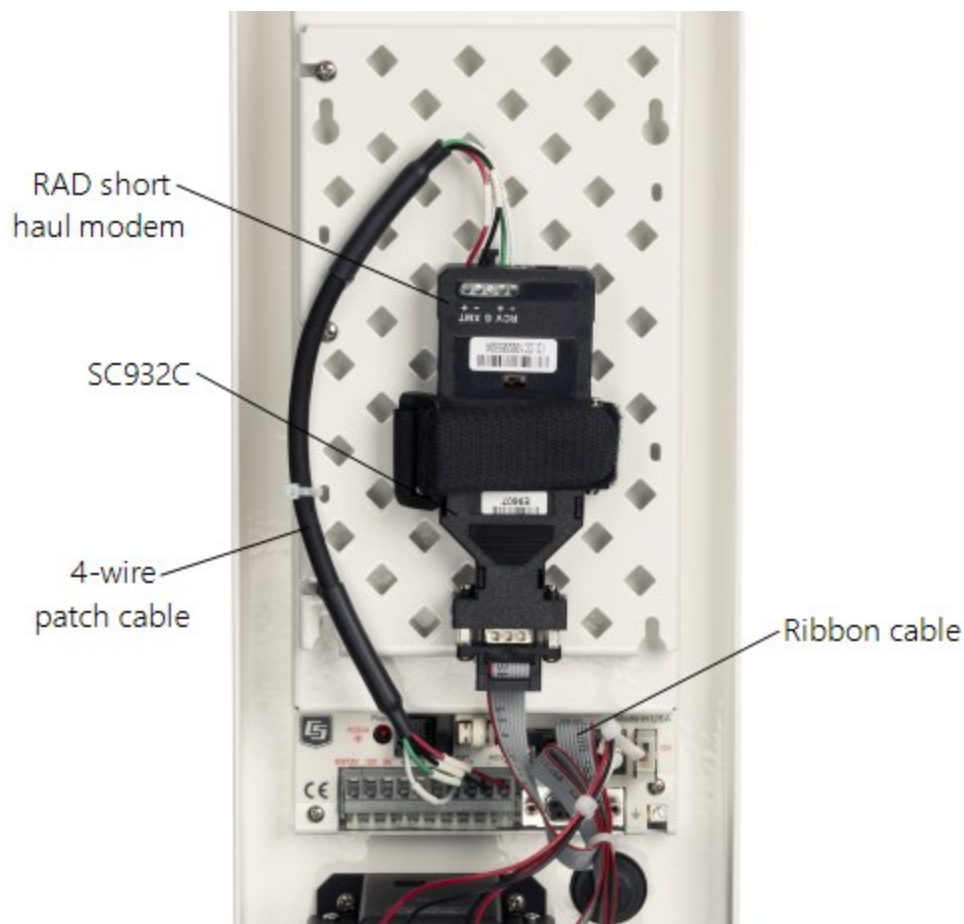
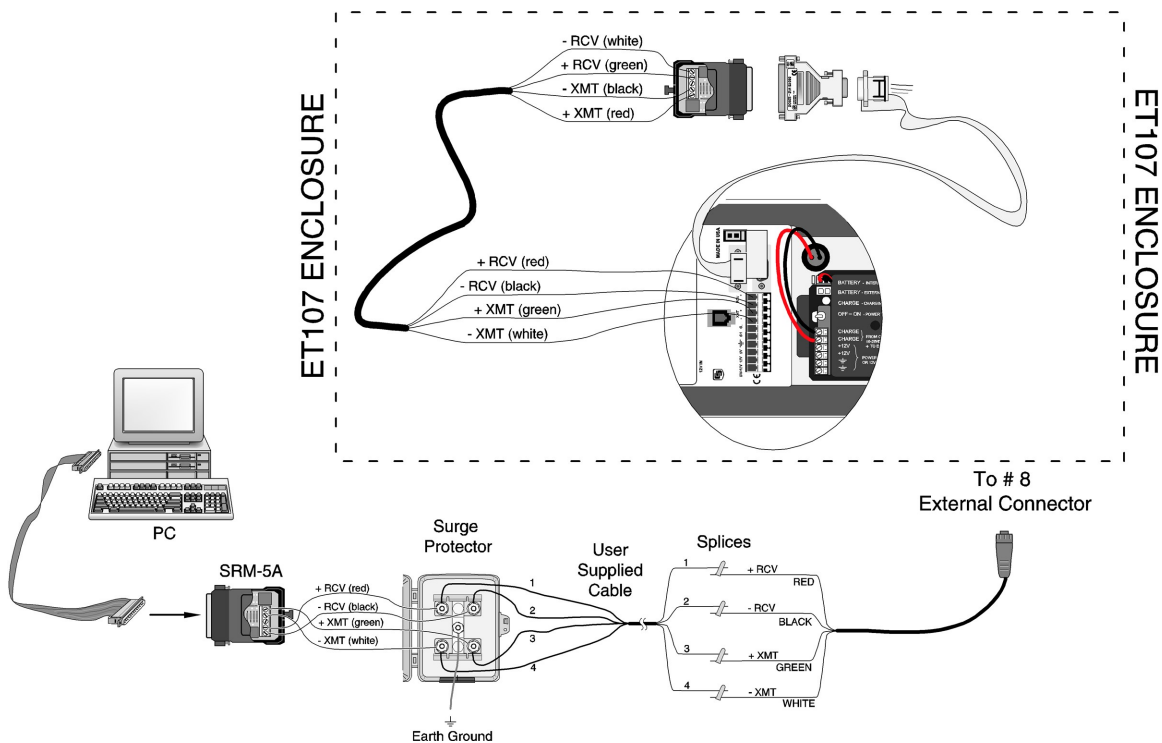

FIGURE 6-24. Short-haul modem mounting and connection (battery not shown)
FIGURE 6-25. Short-haul modem wiring diagram
Use the following procedure to install the short-haul modems (FIGURE 6-24 (p. 39) and FIGURE 6-25 (p. 40)).
4. Connect the SC932C 9-pin port to the internal enclosure **CS I/O** port with the ribbon cable supplied with the enclosure (**FIGURE 6-24** (p. 39)).
Use the following procedure to install the short haul modems (FIGURE 6-25 (p. 40)).